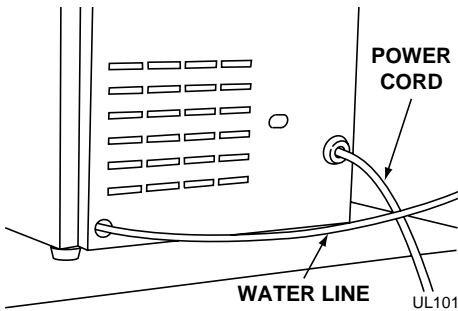

Figure 3
1. Install the 1/4 inch copper water line from the main water source. On ice maker models BI-95 and BI-98, the water line is inserted through the hole in the rear of the unit to connect to the solenoid valve in the front (see Figure 3).